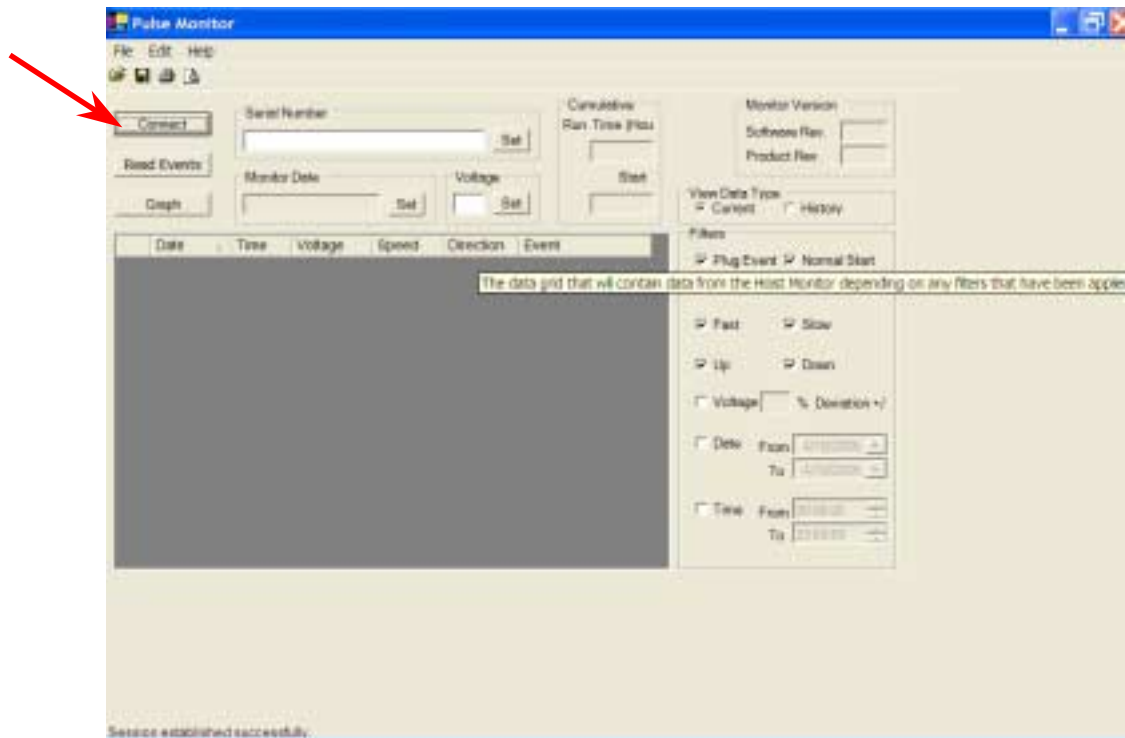

Figure 4
- 2) Open Pulse monitor software on computer and press the **Connect** button. See Figure 4